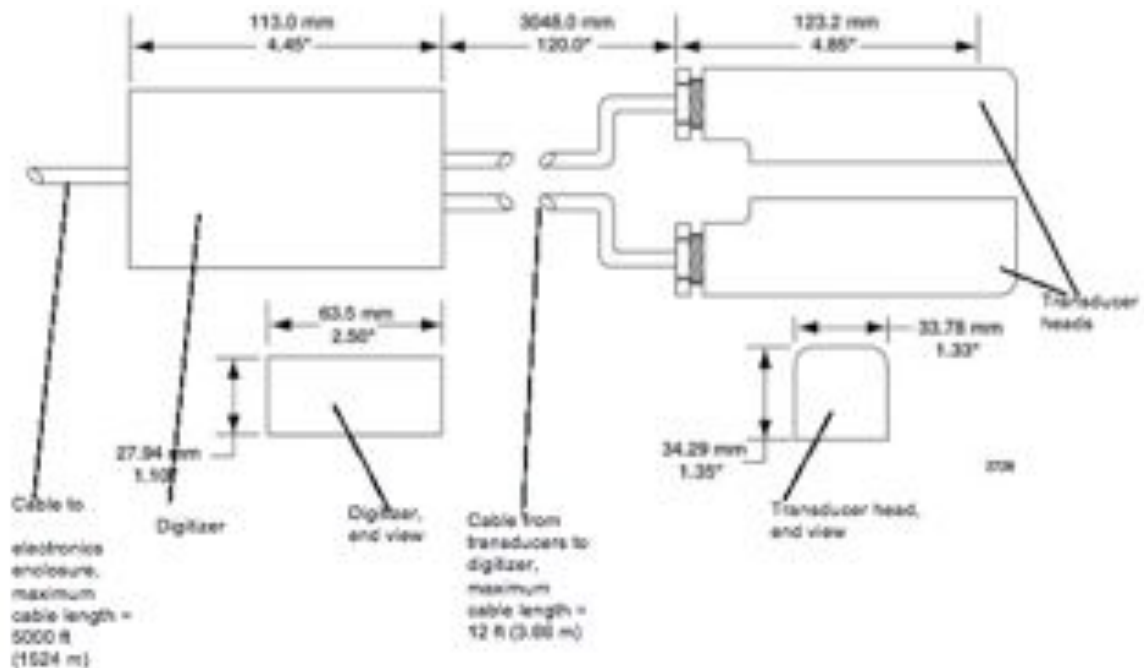

Figure 4-3. Dimensions of clamp-on Doppler
Dimensions	<ul style="list-style-type: none"> • Transducer heads: 4.85"(L) x 1.33"(W) x 1.35"(D) (123 mm x 33.8 mm x 34.3 mm) Note: See Figure 4-3 on page 4-8 for the dimensional illustration